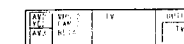

Fig. 44.
- 3 Select the desired source with or . (See Fig. 44) For details about each source, see the table on page 51.